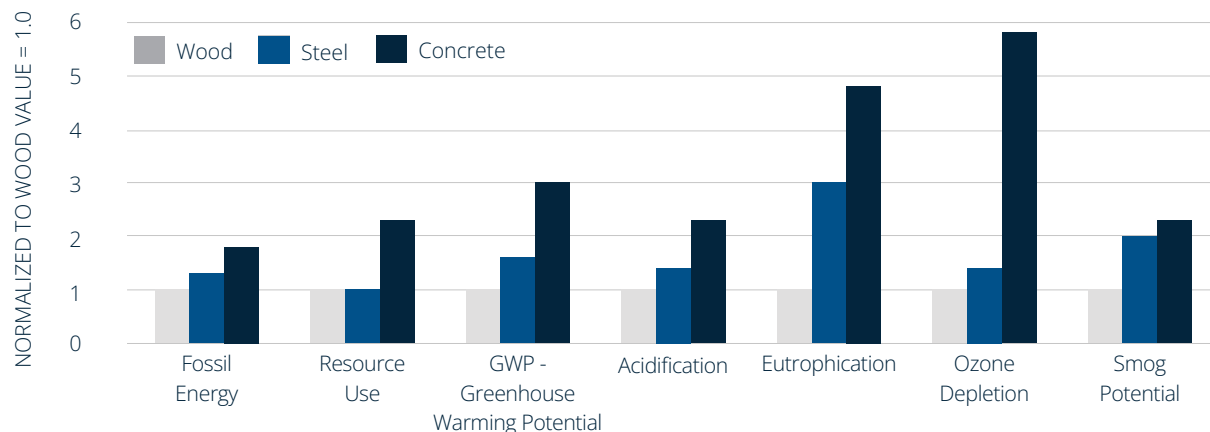

FIGURE 3:
- Less energy is consumed in the production of mass timber components. By some estimates, wood conversion is as much as five times more efficient than cement for concrete and up to 20 times more energy efficient than the production of steel (see Figure 3).